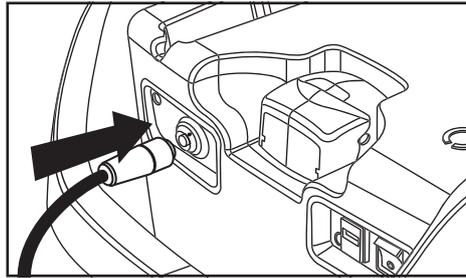

Figure 6. Connecting cable into Generator.
1. Remove the Delivery Device RF cable and plug into generator, ensuring white dot on the top of the plug is aligned with red dot on the generator port (Figure 6).